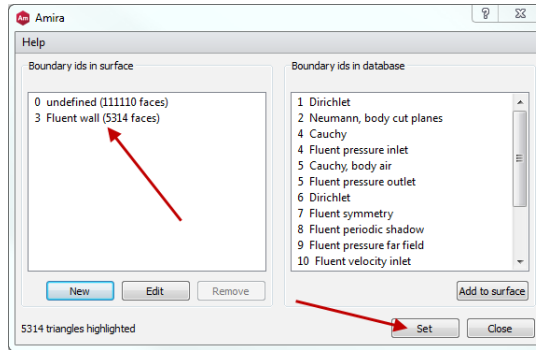

Figure 7.33: Setting the boundary ids.
- Repeat the operation as many times as needed to have no face left undefined (see Figure 7.33).